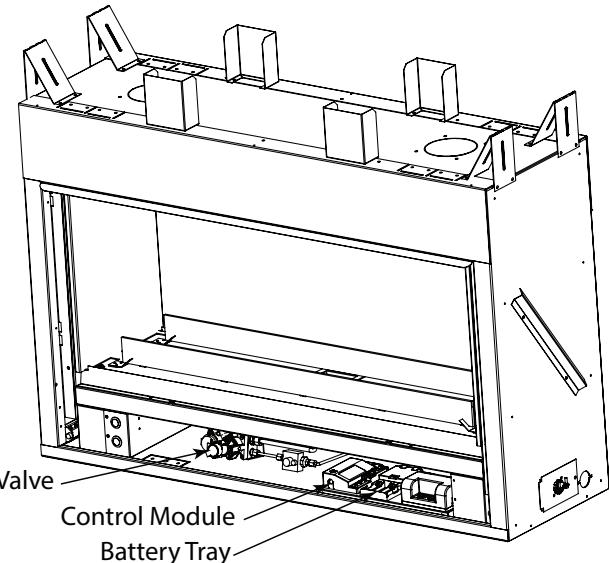

Figure 18. Control Cavity Location
The IntelliFire™ Plus ODS intermittent pilot ignition system comes with a battery backup system that enables the system to operate in a power outage. The system offers seamless transition from household AC power to battery backup. A factory-installed battery pack is located in the control cavity of the appliance. See Figure 18. Battery longevity and performance will be affected by long term exposure to the service temperatures of this appliance.
- Access the control cavity of the appliance. See Figure 18 for location. Lift the barrier screen off of the appliance.
- Locate the battery tray and insert four AA cell batteries. See Figure 18. Battery polarity must be correct or module damage will occur. A complete wiring diagram is included in the electrical section of the appliance installation manual.